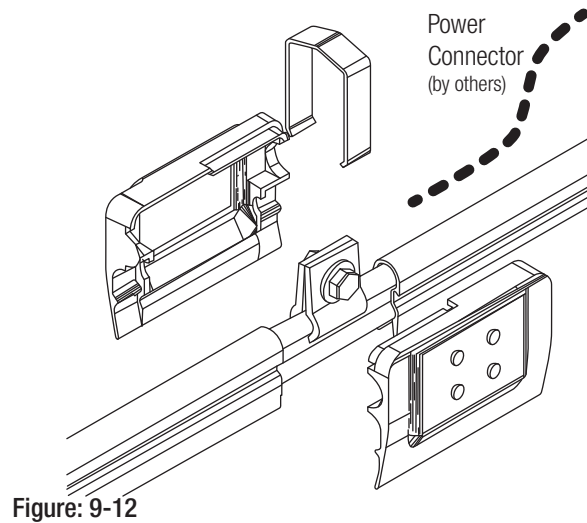

Figure: 9-12
- When using large cables, be sure that the customer supplied connector is attached to the clamp in such a manner that it does not interfere with the powerfeed case. See **Figure 9-12**.
- A. Center end cover / transfer cap on the end of the bar. Tap lightly with a hammer until securely seated. See **Figure 9-12**.